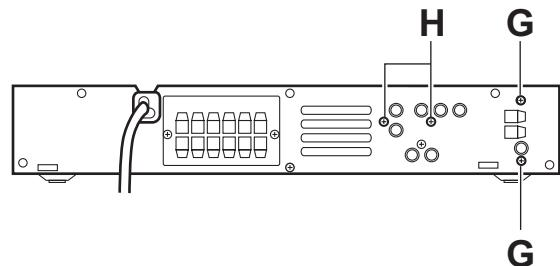

Fig.11
- (2) From the back side of the main body, remove the two screws **G** attaching the tuner assembly to the rear panel. (See Fig.11.)
- (3) Take out the tuner assembly from the main body.
- (2) From the back side of the main body, remove the two screws **H** attaching the video board to the rear panel. (See Fig.11.)
- (3) Take out the video board from the main body.